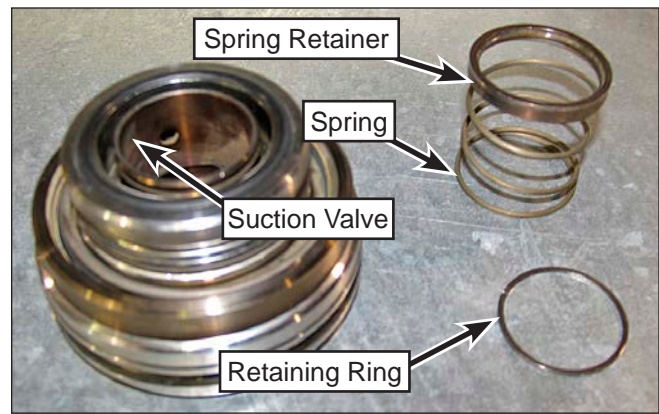

Figure 75: Retaining Ring and Spring Removal.
4. Remove the valve spring retainer and valve spring (Figure 75).